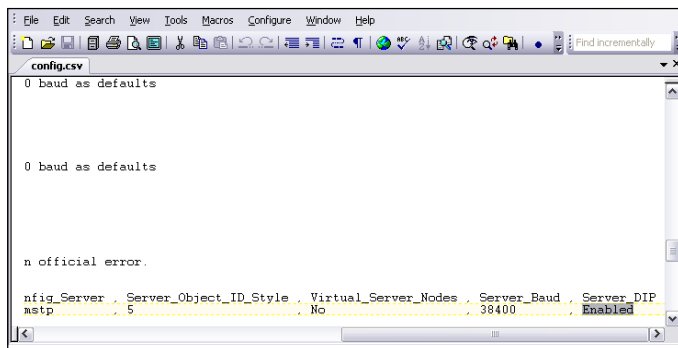

Figure 17: Changing the 'Server_DIP' parameter
11.) Inside the text file under 'Connections', you must change the 'Server_DIP' parameter from 'Enabled' to 'Disabled' and then you can use RUINET to configure the addresses and baud rate. (See Figure 17).